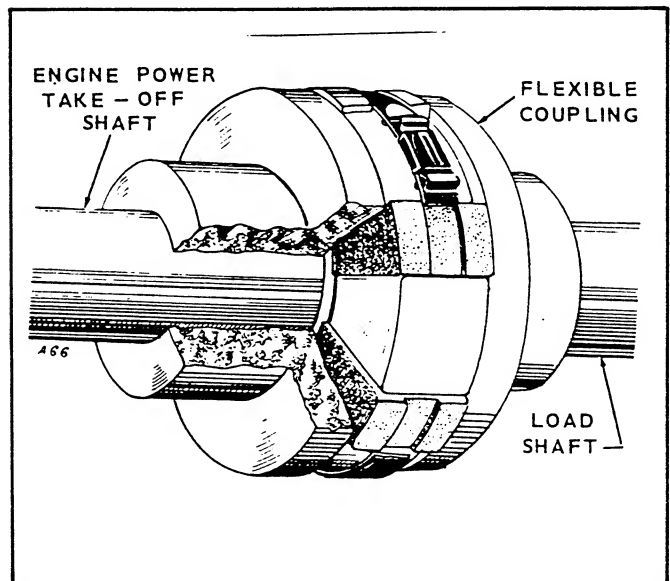

FIGURE 3. FLEXIBLE COUPLING
**Flexible Coupling:** If a flexible coupling engine-to-load drive is used, the load shaft must be in line and centered with the engine shaft (Figure 3).